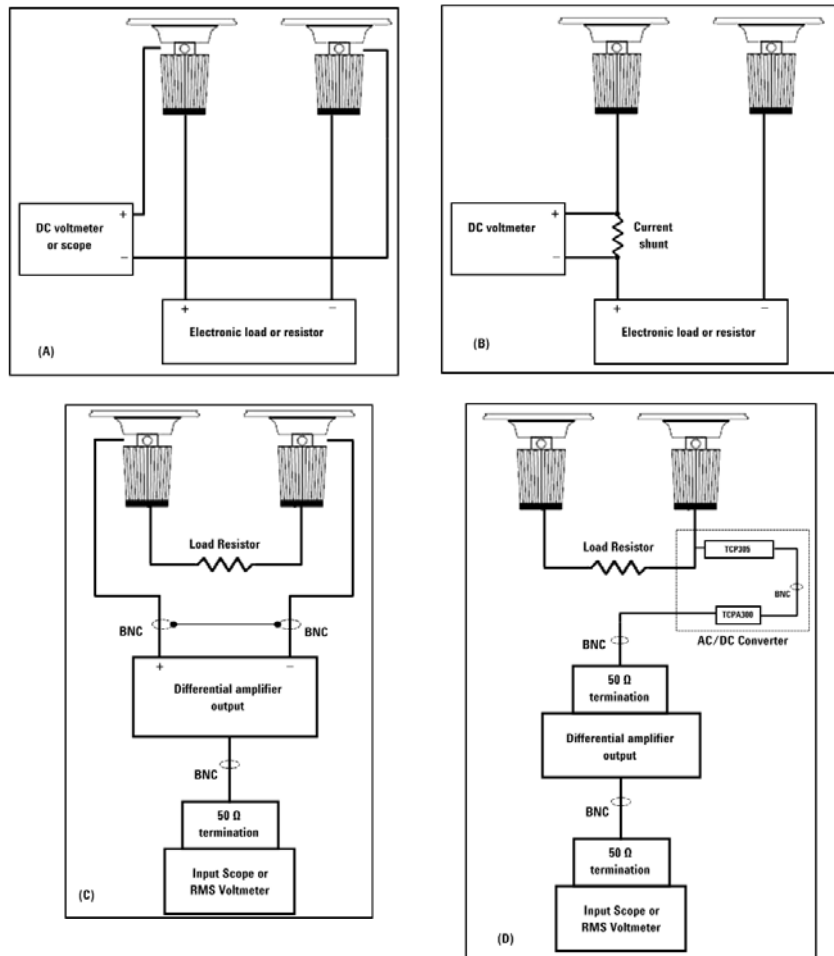

Figure 5-2 Test Setups
- 1 Power off the power supply and connect a DMM between the (+) and (-) terminals of the output to be tested. Remove the electronic load or resistor block as shown in Figure 5-2\(A\), to operate as an open circuit.
- 1 Power off the power supply and connect a DMM between the (+) and (-) terminals of the output as shown in Figure 5-2\(A\).
- 1 Power-off the power supply and connect a DMM between the (+) and (-) terminals of the output to be tested as shown in Figure 5-2\(A\).
- 1 Power off the power supply and connect the output to be tested as shown in **Figure 5-2(C)** to a differential amplifier and load resistor (10 Ω for U8001A and 6 Ω for U8002A)
- 1 Power off the power supply and connect the output to be tested as shown in Figure 5-2\(A\) with an oscilloscope. Operate the electronic load in constant current mode.